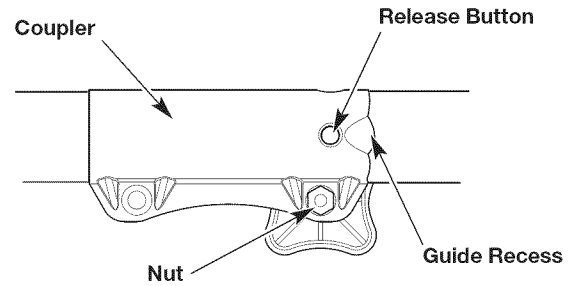

Fig. 7
NOTE: Aligning the release button with the guide recess will help installation (Fig. 7).
NOTE: Do not tighten the nut (Fig. 7).
2. Press and hold the release button (Fig. 7).